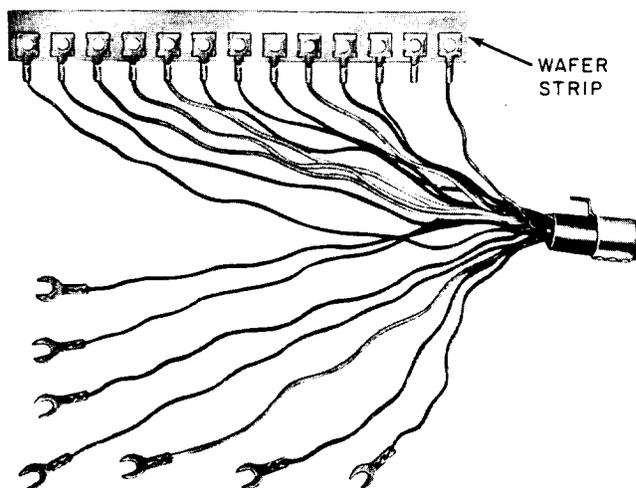

Fig. 1—Non-slotted Wafer Strip End of Mounting Cord, Early Type
2.06 Replace mounting cords of early manufacture (Fig. 1) as follows: